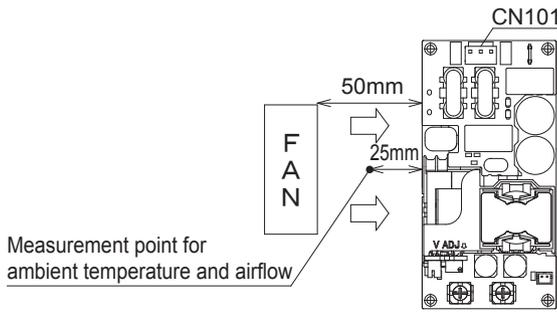

Fig.3.2 Recommended cooling condition
- ① Heat dissipation (derating): Section 3.1 reference
- ② Insulation distance: Please refer to Section 3.2
- For reliable and safe operation, please make sure the maximum component temperatures rise given in table 3.1 is not exceeded. Please refer to Fig.3.2 - 3.3 for derating information based on standard cooling methods. Operating at the maximum temperature rating results in 3-Years life expectancy. The actual life expectancy can be extended by reducing the ambient temperature. Please refer to section 3.5 for more information.